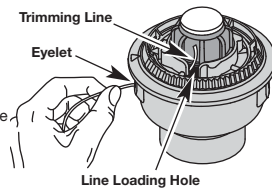

Fig. 15
3. Pull old line out of the line loading and line locking holes (Fig. 15 and 16).
4. Insert a piece of trimming line straight into one of the two eyelets in the outer spool. Push it up through the line loading hole in the inner reel (Fig. 15). Do not bend the line when inserting it into the eyelet.